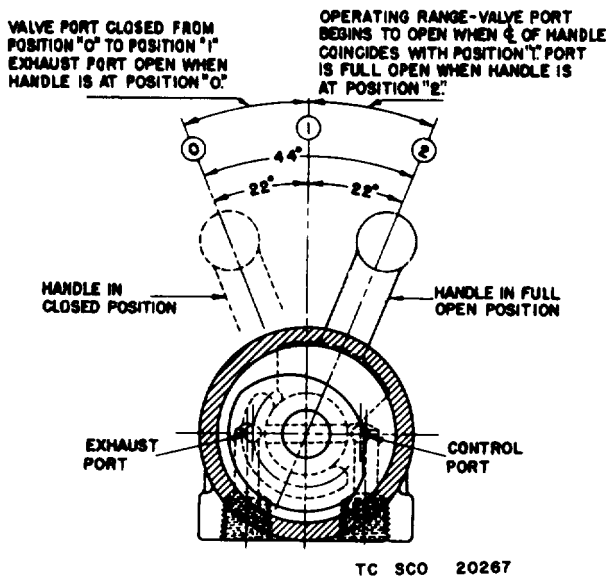

Figure 4. Bell ringer operating valve.
b. When valve is closed, exhaust port opens and pressure is exhausted (fig. 4).